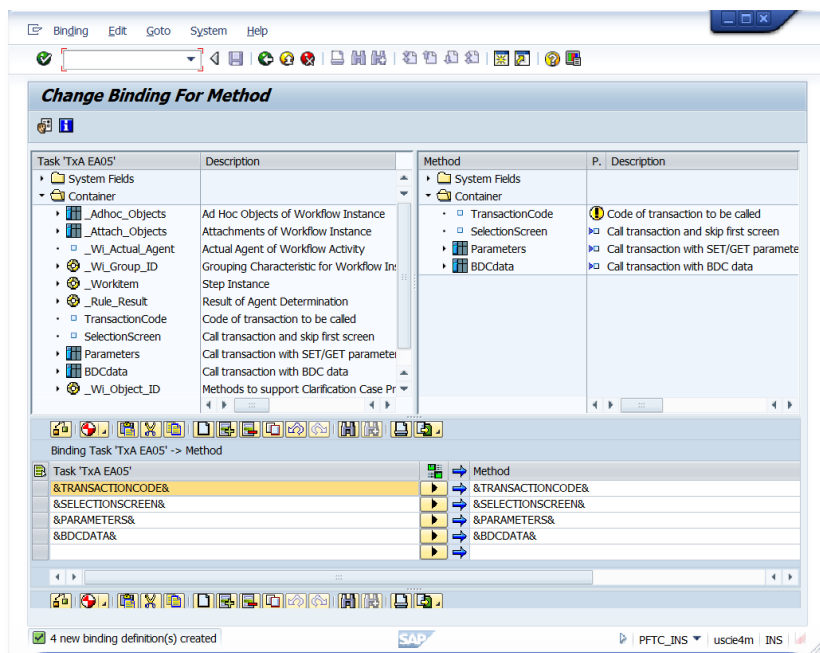

Figure 6-62 Binding Editor with automatically generated Bindings
Step 5: Push the  button to create the binding of the data flow to the method. You just need to push the  button to generate the binding automatically that includes all parameters of the entered method. Figure 6-62 shows the automatically generated bindings. Push the  button to return to the *Basic Data* screen of the workflow task.